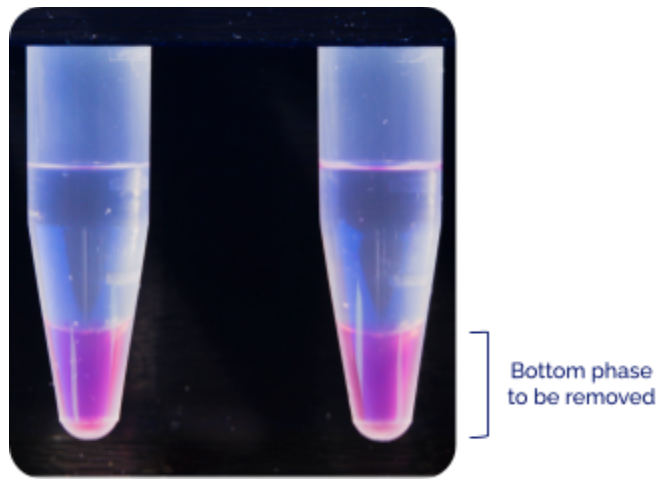

Figure 7. PIPs after addition of De-Partitioning Reagent and centrifugation.
9. Discard the bottom phase by aspirating 2 x 20 μ L from the bottom of the tube (Figure 7).